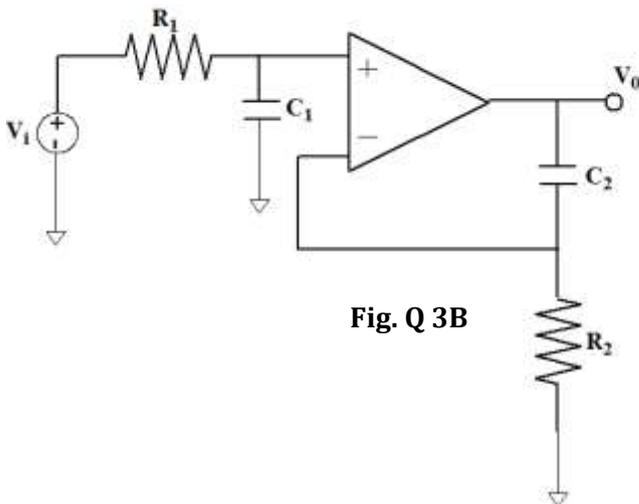
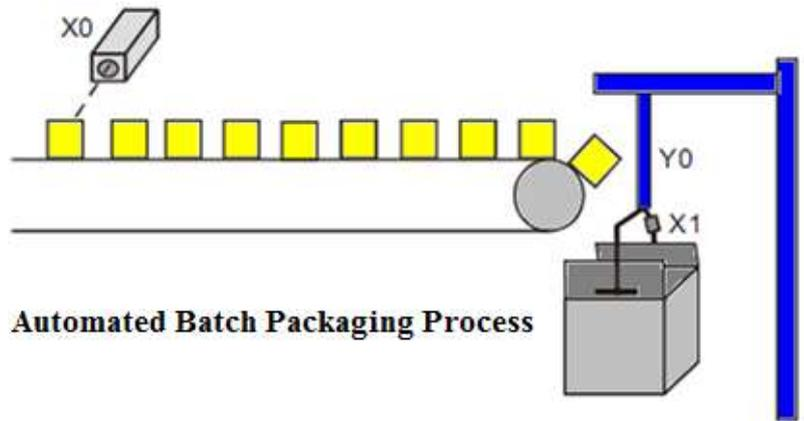

Fig. Q 3B
Fig. Q 4C
- 3B. If $R_1C_1 = R_2C_2$ in the circuit shown in **Fig. Q 3B**, derive its mathematical model. Further, specify the component values to obtain a gain of 20dB at 100Hz. (03)
- 3C. With neat diagram, describe how the linear motion of the core of an inductive transducer is transduced to electrical signals. (04)
- The output of an LVDT is connected to a 5V voltmeter through an amplifier having an amplification factor of 250. An output of 2mV appears across the terminals of LVDT when the core moves through a distance of 0.5 mm. Calculate the sensitivity of the LVDT and that of the instrument. The milli-voltmeter scale has 100 divisions. The scale can be read to 1/5 of a division. (04)
- 4A. With a neat diagram and corresponding graph, explain the working of a single slope analog to digital converter. (03)
- 4B. With a neat diagram, explain the working of a binary weighted digital-analog converter. For a reference voltage of 5V, create a table of analog voltage output of a 4 bit binary weighted digital-analog converter. Let $R = 100K\Omega, R_f = 400K\Omega$. (03)
- 4C. With the help of the basic ladder logic, explain the operation of an UP counter in ensuring the DETERMINISTIC nature of an industrial process. (04)
- Fig. Q 4C** depicts a typical automated product packaging process. Once, the employed photoelectric sensor (X0) detects 10 products on the conveyer belt, the robotic arm (Y0) automatically packs the product carton placed at the end of the chain. The whole packaging process is reset upon the successful packaging of every batch of 10 products. With appropriate ladder logic, explain the proposed solution to achieve the above stated aim. (04)
- 5A. With neat block diagrams explain the concepts involved in signal measurement and instrumentation related to an ECG measuring system (03)
- 5B. With neat schematics, explain the Bit fields of Standard CAN and Extended CAN. Explain the concept of Arbitration in CAN based data transmission. (03)
- 5C. With a neat diagram and accompanying waveforms of input current, switching current and explain the working of an ideal Boost converter. (04)